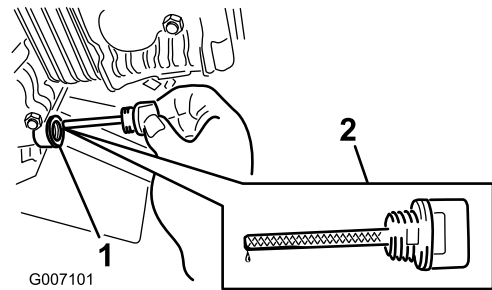

Figure 17
3. Clean around the oil dipstick (Figure 17).
4. Remove the dipstick and wipe the end clean (Figure 17).
5. Slide the dipstick fully into the dipstick tube without threading it into the filler neck (Figure 17).